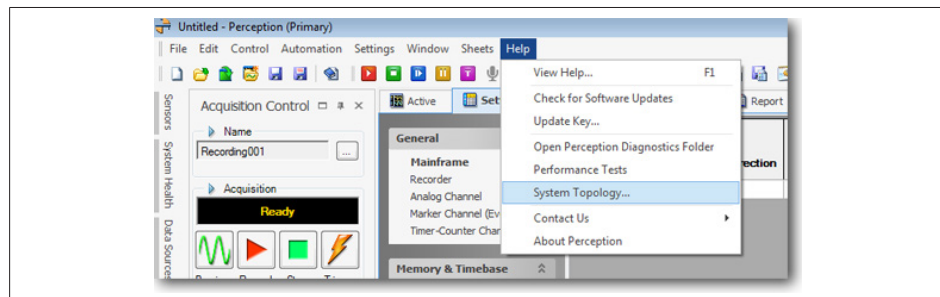

Fig. 14.45 System Topology Help
1. In the menu bar choose **Help ► System Topology** (see Fig. 14.45).